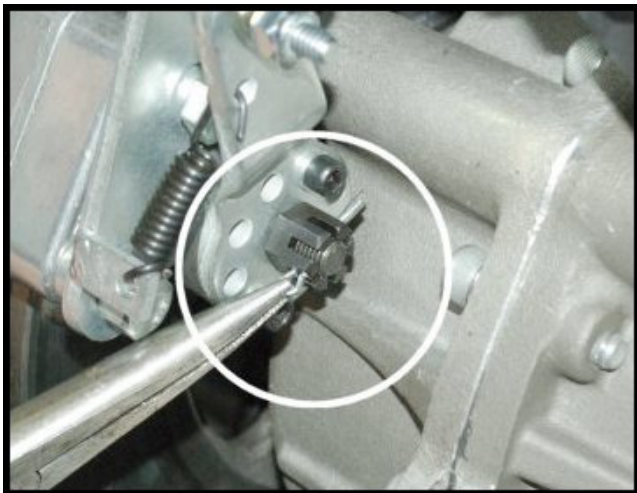

Figure 7-23. Castle Nut.
5. Locate the castle nut at the mechanical brake cam lever and remove the cotter pin. *Figure 7-23.*